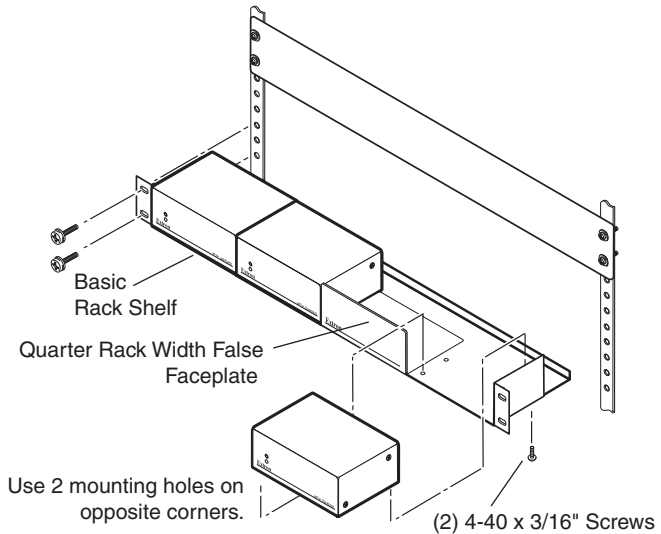

Figure 1 — Mounting the MTP on a 3.5" rack shelf
- RSF 123 - 1U 3.5 inch Deep Rack Shelf Kit (part number 60-190-20, see figure 1)